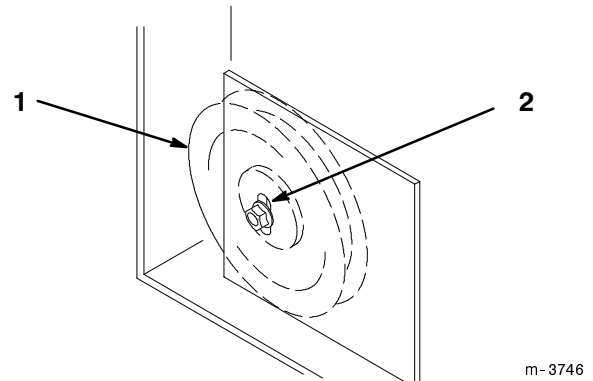

Figure 55
9. If adjustment is required, loosen the fixed idler on right support plate and move up or down in adjustment slot (Fig. 55). To relieve belt tension lift up on spring loaded idler.